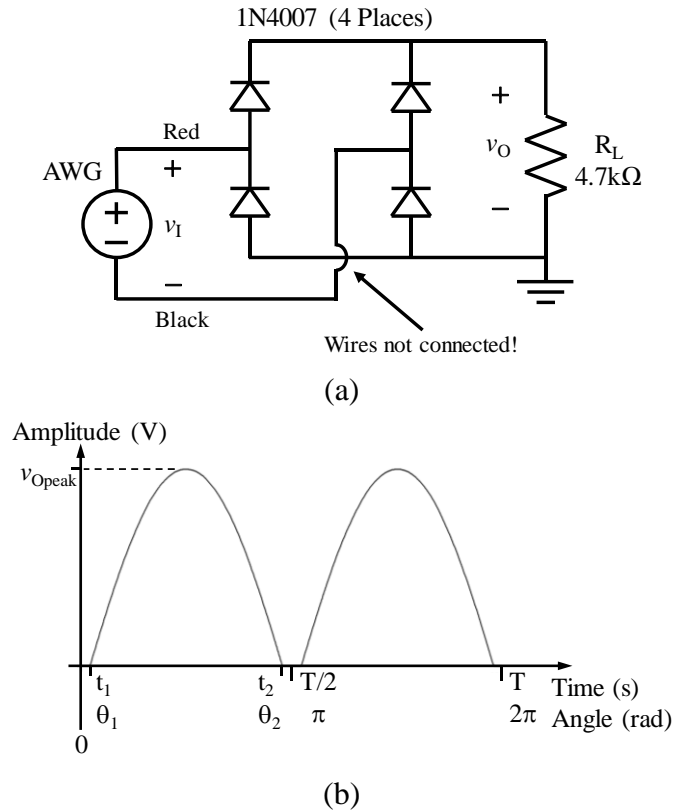

Fig. 2. Full-wave bridge rectifier (a) circuit and (b) output waveform. Time and angular periods refer to the input waveform.
2. Perform the following calculations for the full-wave rectifier in Fig. 2. Put your results in Table 1.